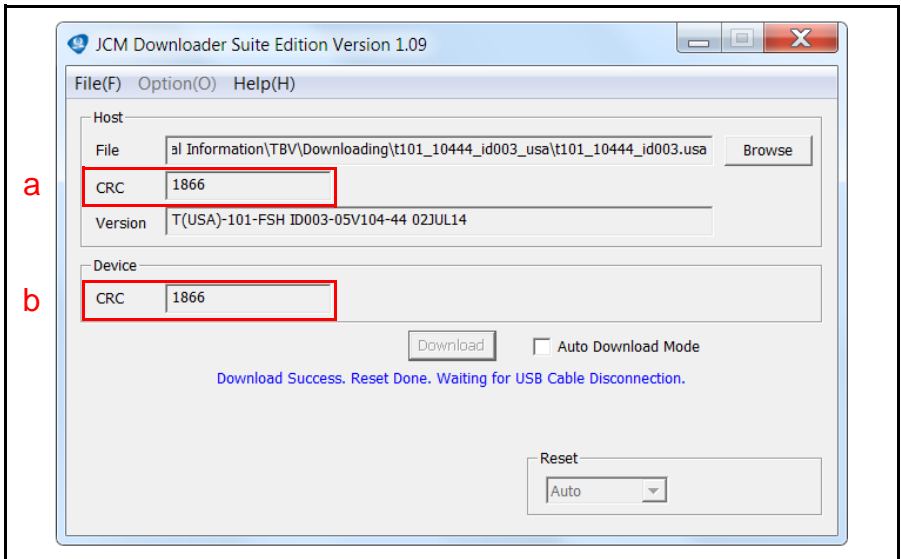

Figure 5 JCM Downloader Suite Edition Main Screen
The JCM Downloader Suite Edition screen will appear (Figure 5).
3. The JCM Downloader Suite Edition screen will reappear (Figure 5). Click the “Download” Screen Button to begin downloading the Firmware.
NOTE: A **BLUE**-colored Barograph will display the Download progression. When downloading is complete, the following message is displayed (Figure 5): **Download Success. Reset Done. Waiting for USB Cable Disconnection.**
4. Verify the Host CRC (Cyclic Redundancy Check) (Figure 5 a) and the Device CRC (Figure 5 b) Checksum values are identical.